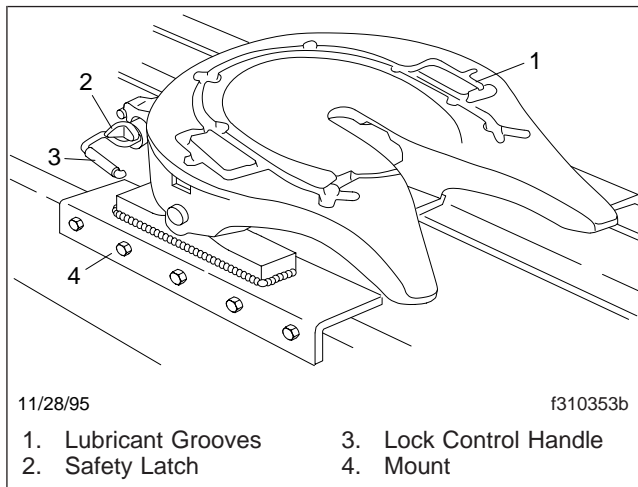

Fig. 3, Simplex Series Fifth Wheel
4. When the wheel is locked, the safety latch must swing free and fall freely into position. See **Fig. 3**.